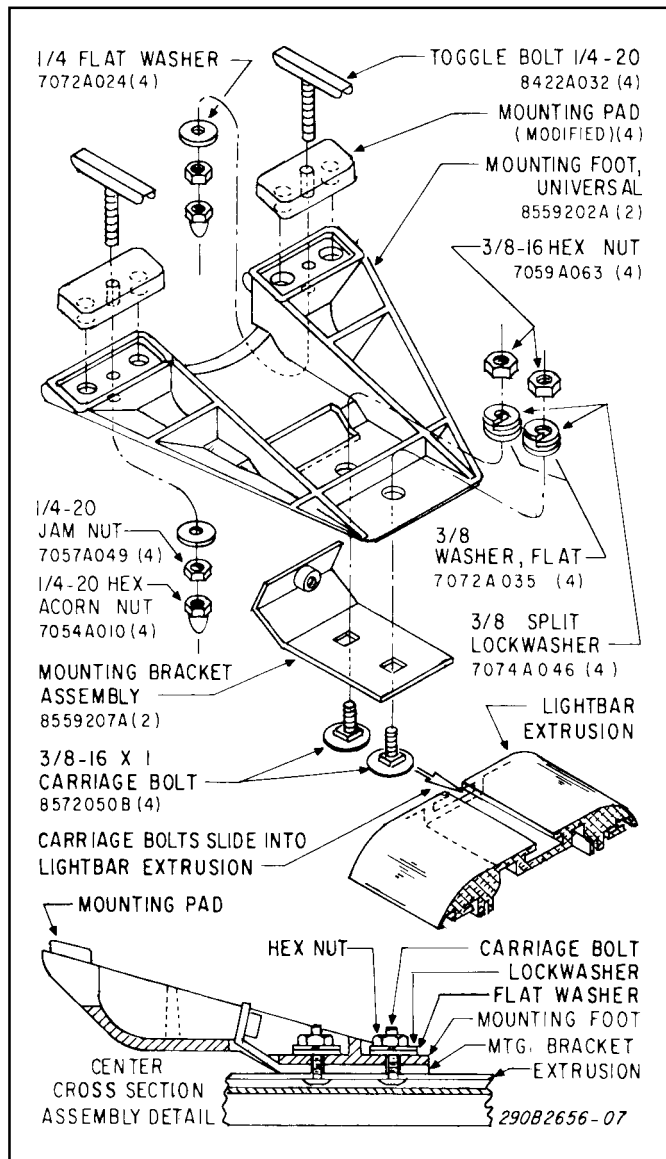

Figure 2.
3. Assemble a hook bracket to each mounting foot using the 3/8-16 carriage bolts, 3/8 flat washers, 3/8 lockwashers, and 3/8-16 hex nuts as shown in figure 2.
4. Slide the two carriage bolts of a mounting foot assembly into the slot in the extrusion as shown in figure 2. Repeat on the other side of the light assembly.
C. Place the mounting pad into the mounting feet as shown in figure 2 or 3 as applicable.
J. Insert a toggle bolt in each of the four holes drilled in step G. Slide a rubber mounting pad over each bolt as it is installed (see figure 2 or 3). Use caution to avoid dropping the bolts through the holes before the rubber mounting pads are installed.